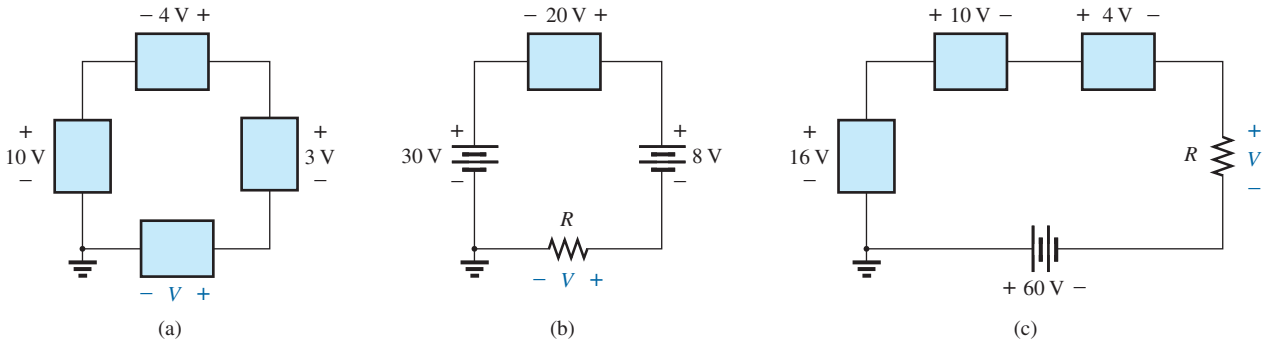

FIG. 5.104
- 20. Using Kirchhoff's voltage law, find the unknown voltages for the circuits in Fig. 5.104.